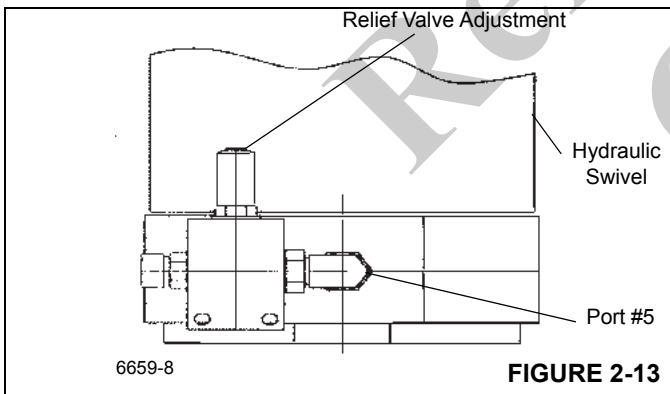

FIGURE 2-13
2. Run the engine at full rpm and steer full right or full left and hold. Check the pressure and adjust the relief valve Figure 2-13 to 2500 psi ±50 (17.2 MPa ±0.4).